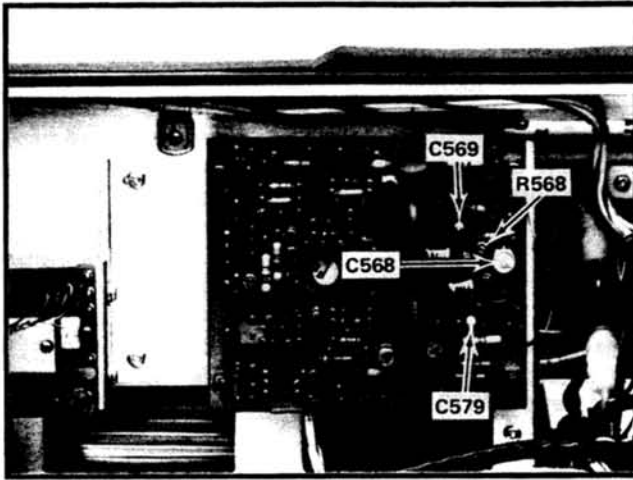
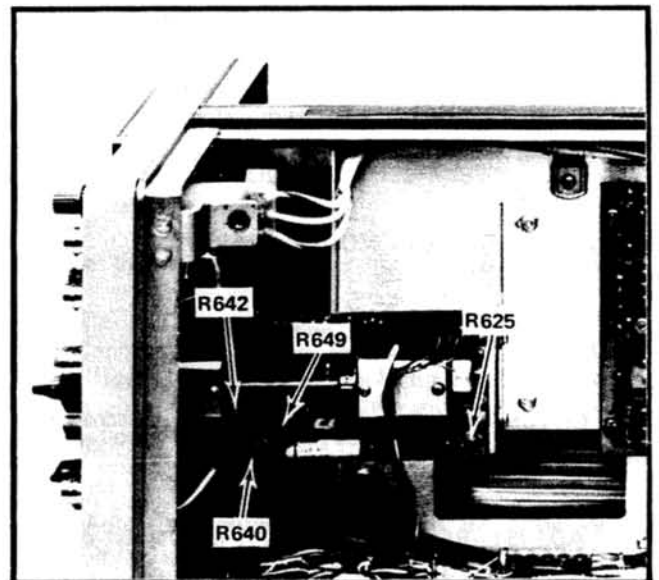

Fig. 5-20. Location of C569, C579, C568, and R568.
Fig. 5-21. Location of R625, R640, R642, and R649.
h. Observe the setting of adjustable capacitors C569 and C579 (see Fig. 5-20). Nominal setting for them is equal adjustment at or near minimum capacity (turned out).
n. ADJUST—C568 (see Fig. 5-20) to adjust timing to the same timing error observed at $.05 \mu\text{s}/\text{div}$ with X1 magnifier.
q. ADJUST—R568 (see Fig. 5-20) to adjust timing to the same timing error observed at $.02 \mu\text{s}/\text{div}$ with X1 magnifier.
①
e. ADJUST—R649 (see Fig. 5-21) for an output voltage of .4 volt.
f. Connect the Precision DC voltmeter to monitor the voltage across R642 (see Fig. 5-21).
h. ADJUST—40 mA R640 (see Fig. 5-21) for a voltage measurement of 30.6 volts.
- t. ADJUST—R625 (see Fig. 5-21) to align the leading edges of the calibrator square wave with the 1 millisecond time markers.
- y. ADJUST—R625 (see Fig. 5-21) for slowest drift of time markers across calibrator square wave.
- ae. ADJUST—repeat steps u through y to adjust R625 (see Fig. 5-21) for slowest drift of time markers.